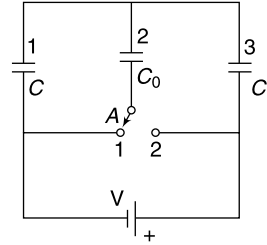

Fig. 2.57 Circuit of Ex. 2.51
2.51 Find the amount of heat generated in the circuit shown in Fig. 2.57 after the switch is shifted from position 1 to position 2.